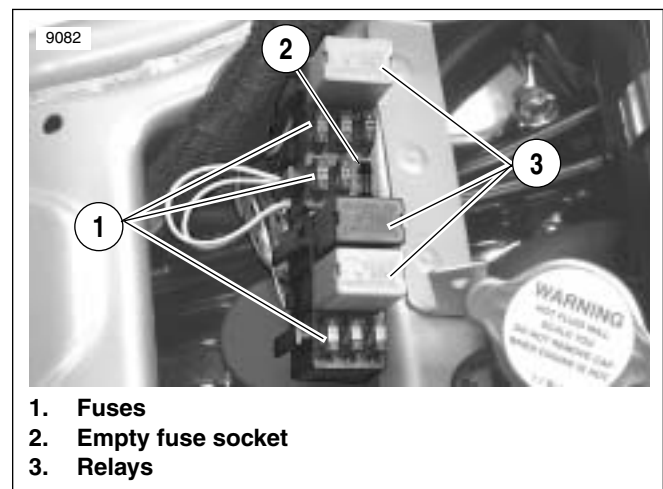

Figure 8-2. Relays and Fuses (typical)
See Figure 8-2. Each relay/fuse block assembly contains both fuses (1) and relays (3). There is one unused, empty fuse socket (2).